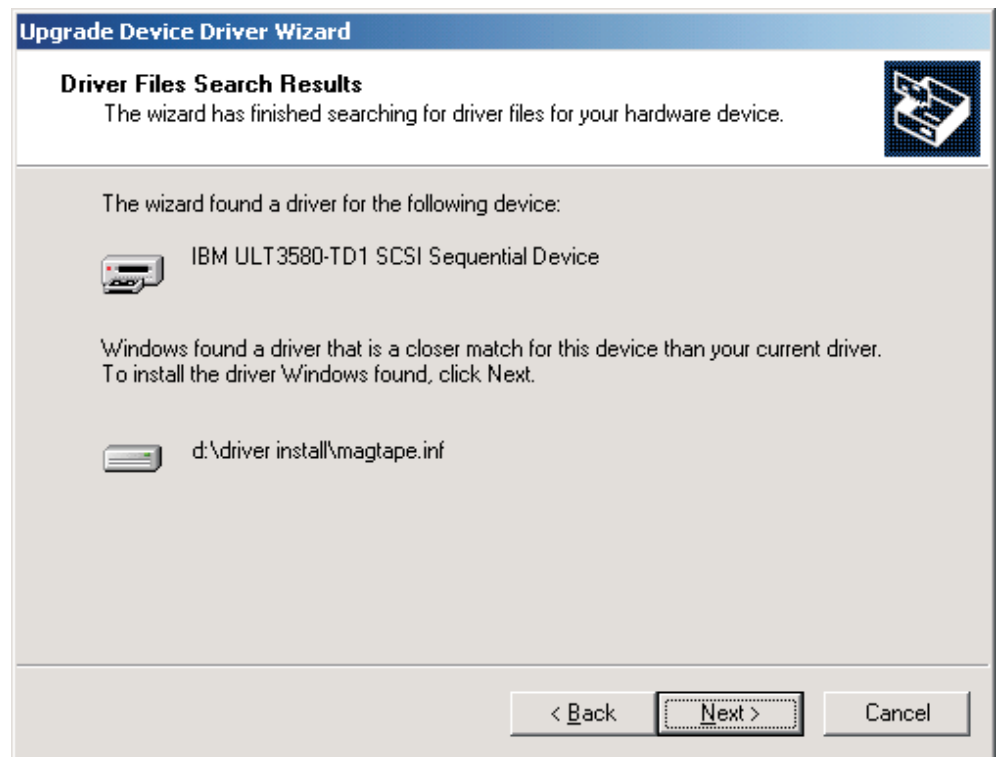

Figure 33. Driver Files Search Results
8. After a brief moment of searching, the operating system should present the **Driver Files Search Results** screen. Figure 33 contains an example of a screen that will be presented when it finds an IBM Ultrium Generation 1 drive. Depending on the device you are installing, this and subsequent screens could have minor differences. Click **Next >**.